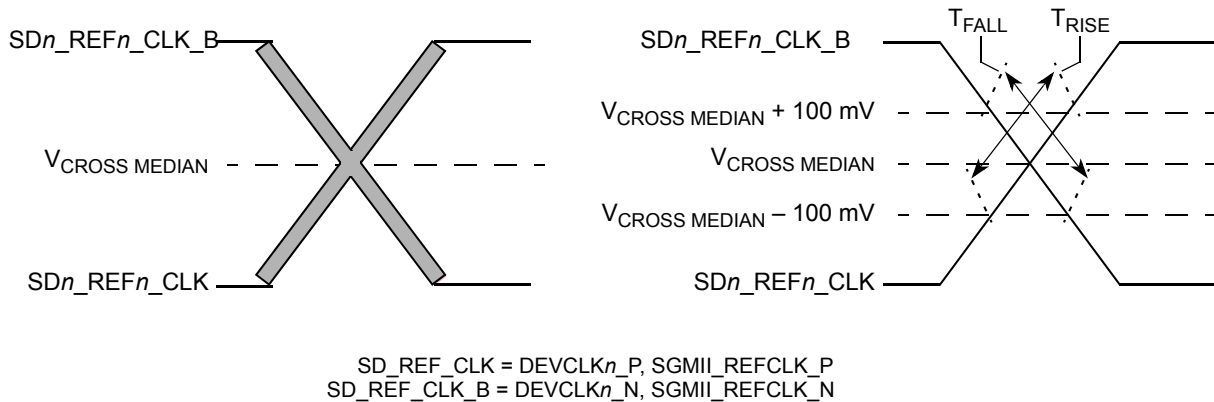

Figure 36. Single-ended measurement points for rise and fall time matching
- Matching applies to rising edge for SGMII_REFCLK_P and falling edge rate for SGMII_REFCLK_N. It is measured using a 200 mV window centered on the median cross point where SGMII_REFCLK_P rising meets SGMII_REFCLK_N falling. The median cross point is used to calculate the voltage thresholds that the oscilloscope uses for the edge rate calculations. The rise edge rate of SGMII_REFCLK_P must be compared to the fall edge rate of SGMII_REFCLK_N, the maximum allowed difference should not exceed 20% of the slowest edge rate. See Figure 36.